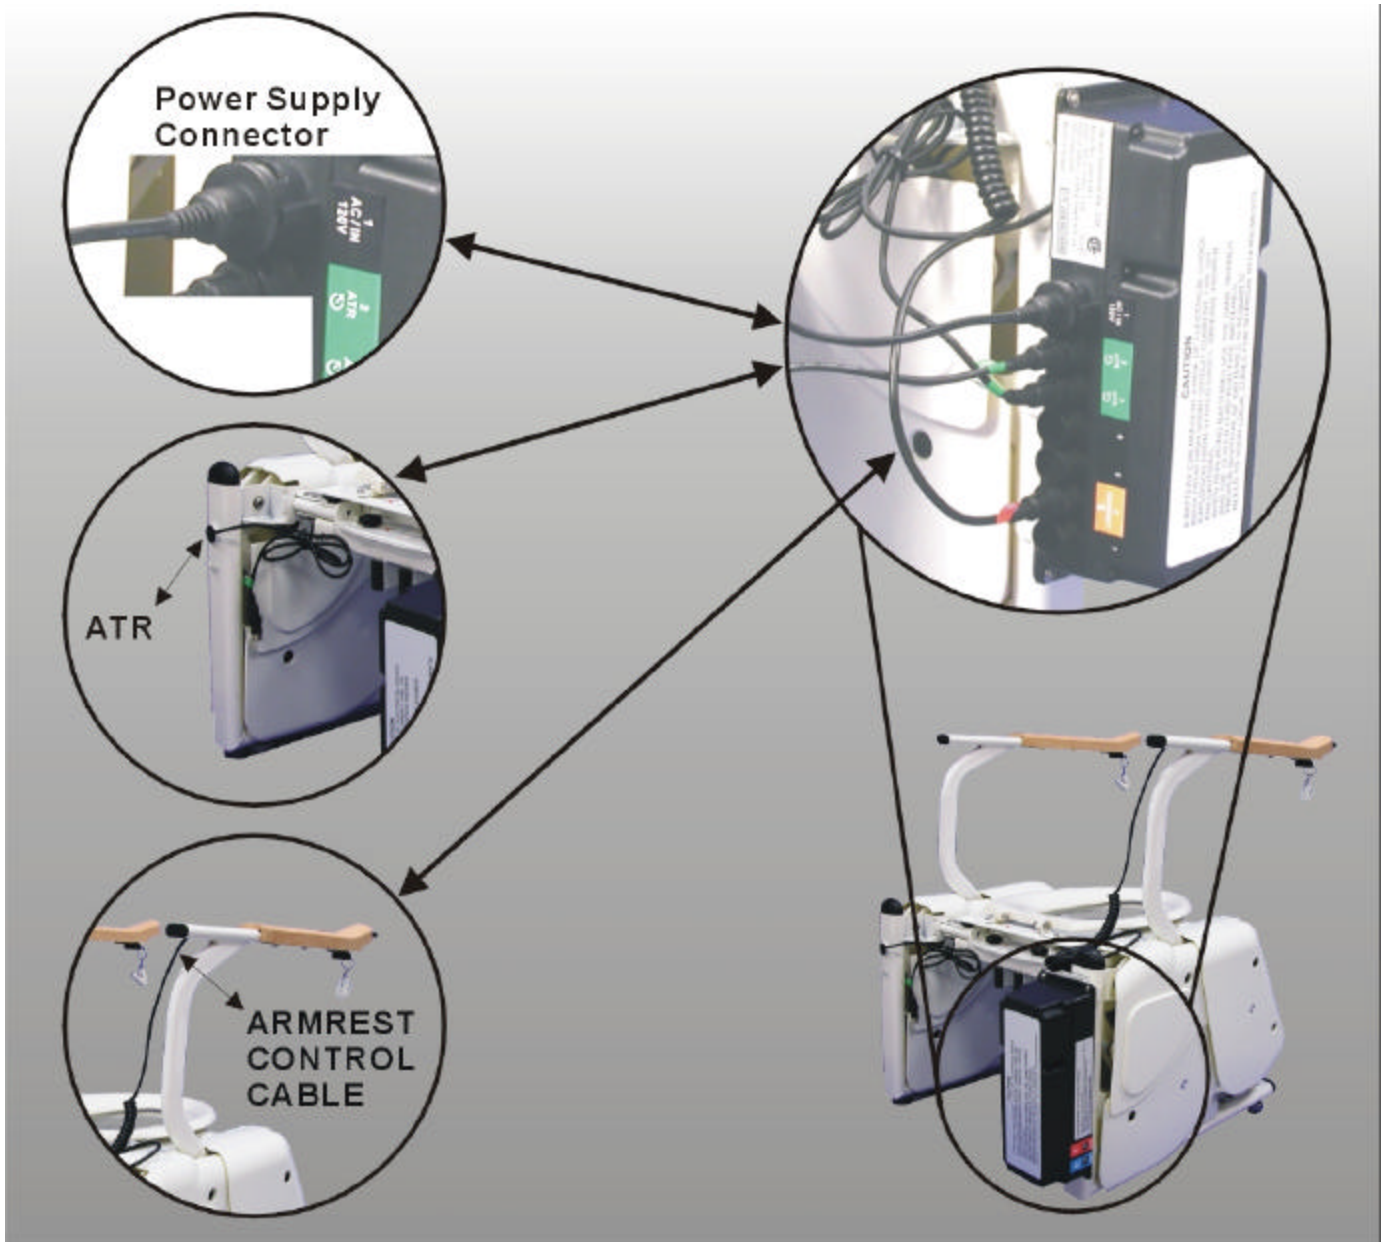

Figure A-4. Control Box Connectors
Step 6. For the optional battery control box, omit this step, and accomplish step 6a. For the transformer/control box, connect the control armrest cable to the second connector port from the bottom of the transformer/control box as shown in Figure A-4. Omit step 6a.
Step 7. For the optional battery control box, omit this step, and accomplish step 7a. For the transformer/control box, connect the power supply cable connector to the top connector port on the transformer/control box as shown in Figure A-4. Omit step 7a.